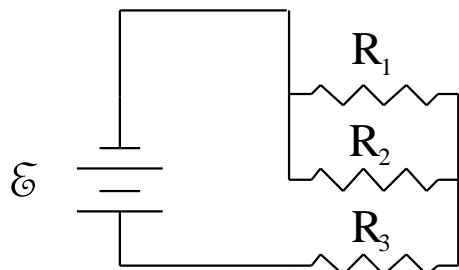

Figure 3
10. Repeat the previous procedure for two complex circuits and verify that the results are consistent with theory. (see figures 3 and 4)
11. On the back of the paper, draw a new line, **ML**, across middle of the paper. Draw an triangle in front of the line, as shown in Figure 3, and **label the vertices A, B, and C**. Place the pin at vertex **A** place the mirror and block along line **ML**, as you did in Part A.
15. Remove the mirror and the pin. Extend the pairs of lines, **A**, and **A2**, **B**, and **B2**, and **C**, and **C2**, beyond the mirror and locate points **A'**, **B'**, and **C'**, as shown in Figure 3. Construct the image of the triangle. Measure and record the distances from points A, B, C, A', B', and C' perpendicular to the mirror line ML. Record on the paper.